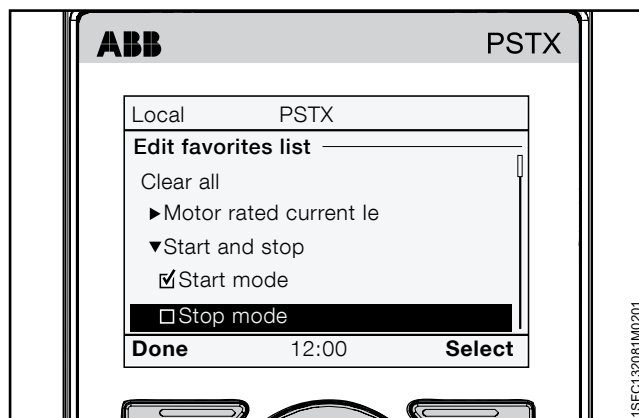

Figure 6.24
3. Push "Select" to select parameters. A check mark shows in front of the selected parameter. Push "Unselect" to unselect the parameter. Push "Done" to save and exit. See **Figure 6.24**.